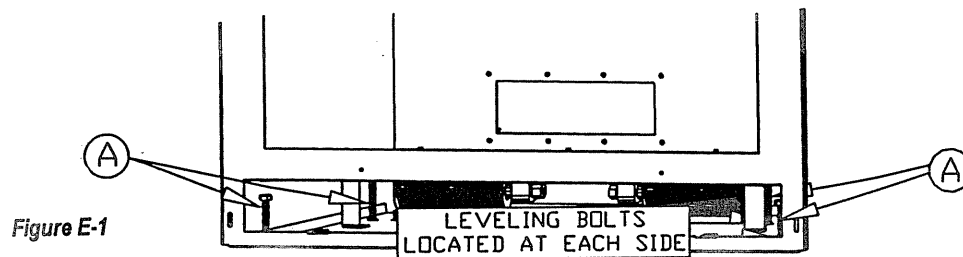

Figure E-1
2. If necessary level the unit by screwing the leveling bolts (included in the components packet) into the nuts mounted in the bottom of the unit behind the lower grill. See figure E-1.